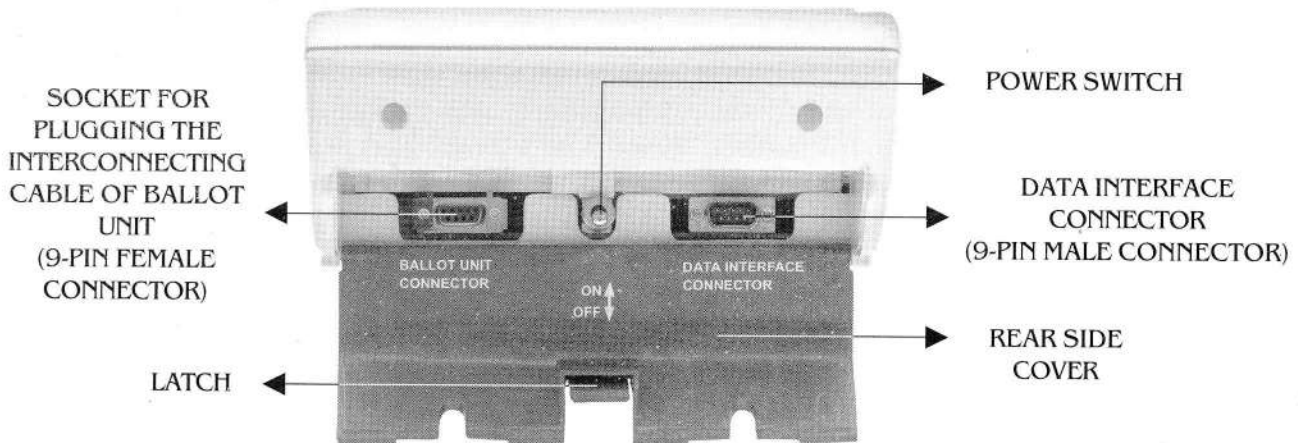

FIG. 12 View of rear compartment of Control Unit
24. The rear side portion of the Control Unit has also a compartment with a cover. This cover is hinged in the rear side and opens swinging downwards, when the latch in the middle is pressed downwards. The cover, when opened, will reveal a plug on the left hand side for plugging the interconnecting cable from the Ballot Unit and a power switch in the middle, for switching the EVM 'ON' or 'OFF' and a 9-pin male connector on the right hand side for Data Interface connection (Fig. 12).
##### Power Switch (Fig. 12)